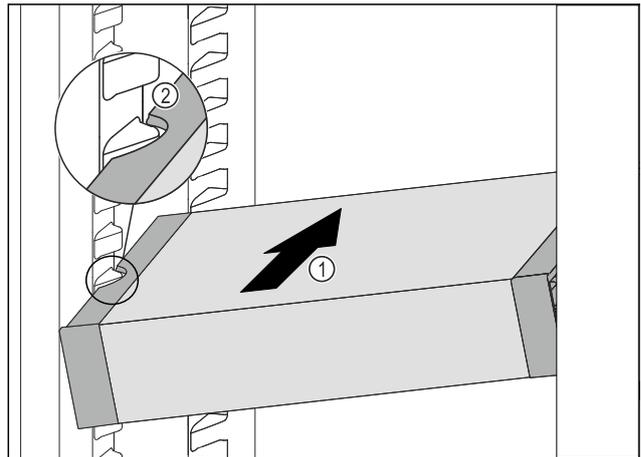

Fig. 96
- ▶ Insert the VarioSafe into the fridge section at an angle Fig. 96 (1) until the recesses in the side Fig. 96 (2) of the VarioSafe are at the level of the support rib in the fridge section.